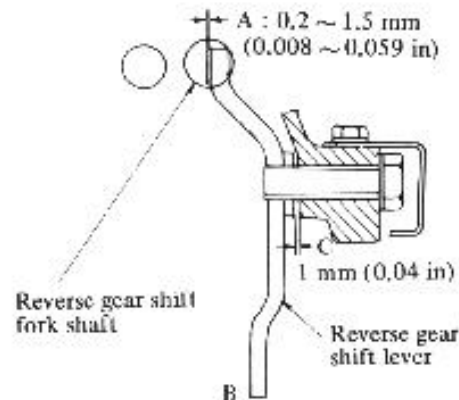

Fig. 8-32
5. Reverse gear shift lever boss has threaded bushing. When installing the shift lever, mate bolt and bushing and adjust clearance at A as shown in the Fig. 8-32 to 0.2–1.5 mm (0.008–0.059 in). This is made by adjusting clearance at C by changing the mating of reverse gear shift lever bolt with threaded bushing of reverse gear shift lever complete. Make sure that the lever end “B” does not come into contact with the bottom of gear groove and keep clearance at C about 1 mm (0.04 in).